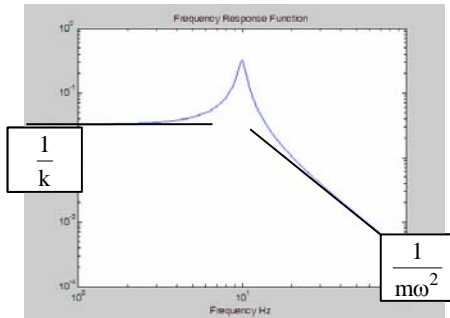

Figure 2 – Single DOF System with Residual Terms
In order to describe the residual terms, it is advantageous to look at the single degree of freedom displacement frequency response function. Figure 2 shows that frequencies below that of the resonant frequency are basically described by a dominant stiffness term and that the frequencies above that of the resonant frequency are basically described by a dominant mass term. It is this basic fact that allows the frequency response function to be written with the band of interest along with a lower residual term (LR) and an upper residual term (UR). Usually 4 extra residual terms in a polynomial curvefitter are sufficient in order to approximate these terms.